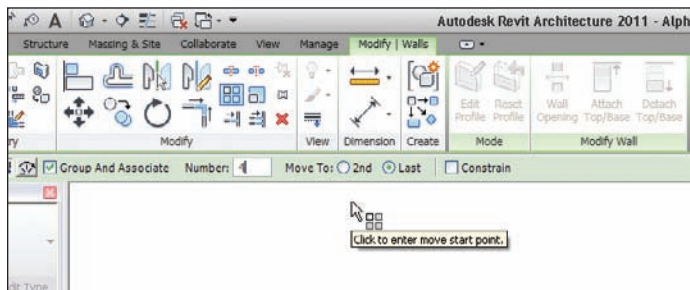

FIGURE 4.21 Choosing the Linear Array options
12. On the Options bar, select Linear, as shown in Figure 4.21.